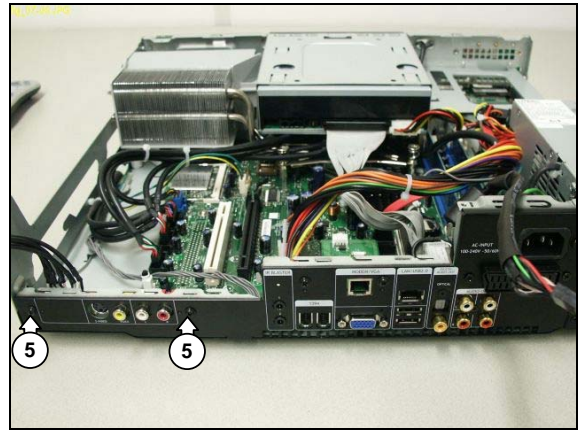

Figure 12.7-5
4. Remove the 2 mounting screws (5) from the TV daughterboard subassembly. See Figure 12.7-5.